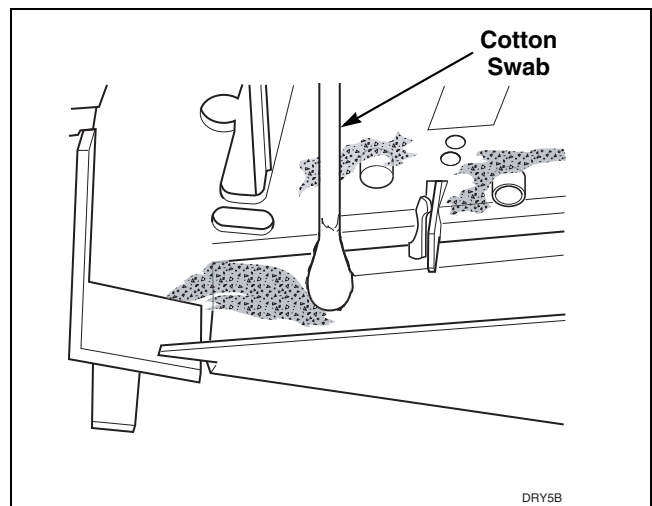

Figure 14
- Check coin path in coin drop for lint and residue. If lint or light residues are present, use a cotton swab to remove. If heavy residue is present, it may be necessary to first scrape off excessive residue and then use a cotton swab dipped in water or isopropyl alcohol (rubbing alcohol) to remove remainder of residue. Refer to *Figure 14*.